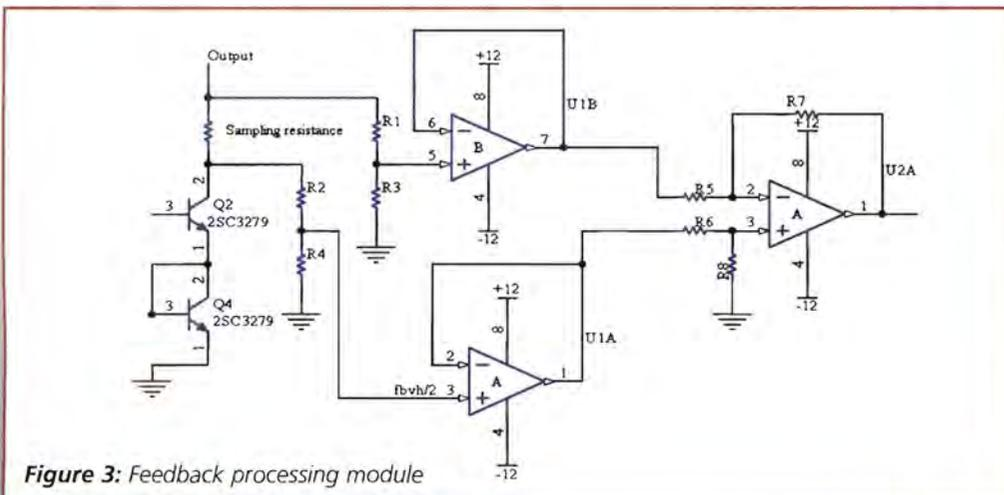

Figure 3: Feedback processing module
**Figure 3** shows data from a baseband channel card being sent to a RF card for subsequent digital Intermediate Frequency (IF) processing, including Digital Up-Conversion (DUC), CFR and DPD. Digital IF extends the scope of digital signal processing beyond the baseband domain to the antenna – to the RF domain. This increases the flexibility of the system while reducing manufacturing costs. Moreover, digital frequency conversion provides greater flexibility and higher performance (in terms of attenuation and selectivity) than traditional analogue techniques.
Figure 3 is the circuit of feedback processing module. This part mainly processes the feedback